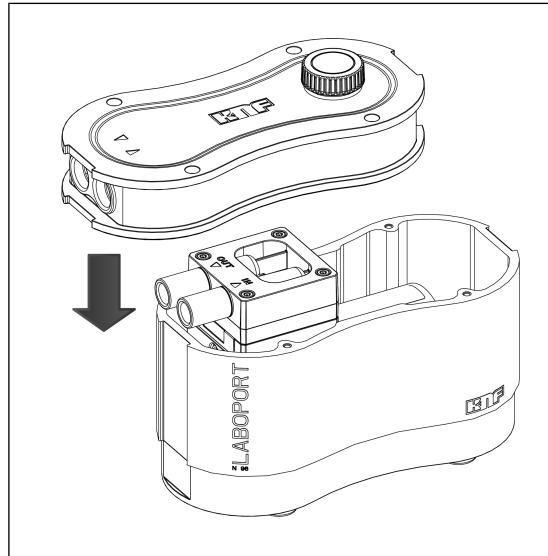

Fig. 11: Mounting the housing cover
1. Carefully place the housing cover (Fig. 6/2) on the pump housing (3) (see Fig. 11).